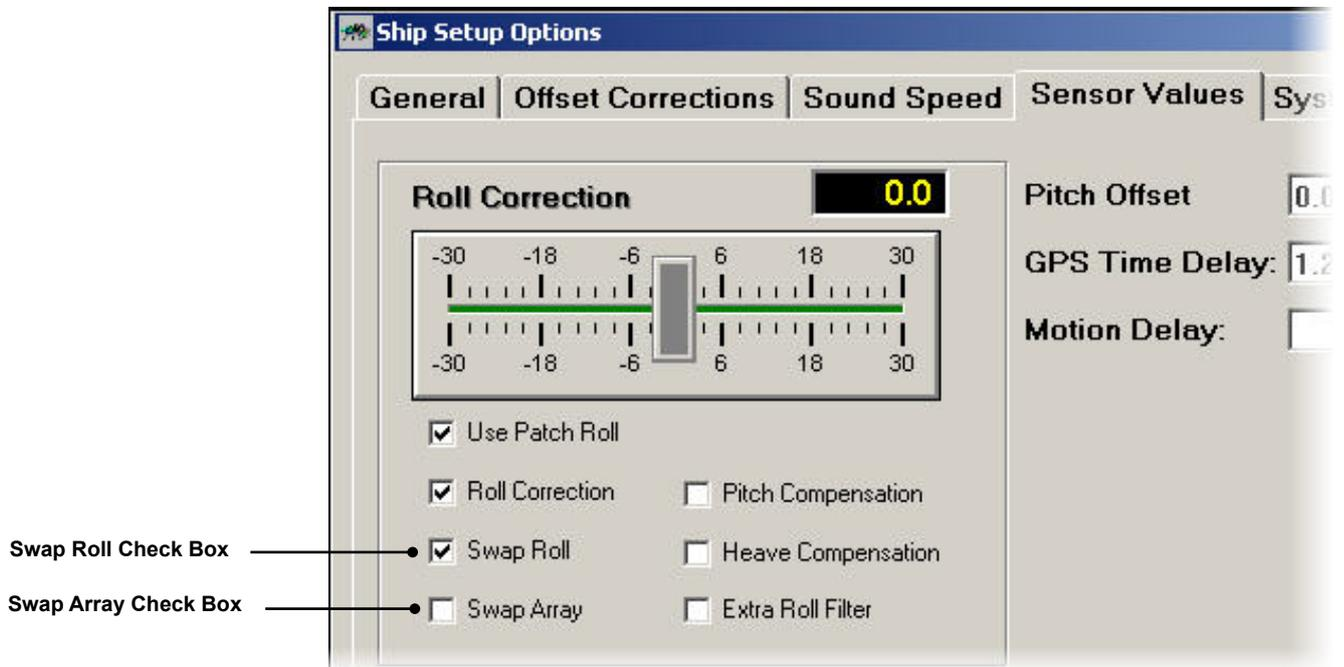

Figure 36 – Swap Array and Swap Roll Check Boxes
If possible use a known gyro compass or magnetic device along with known magnetic deviation to calculate the ships heading accurately (within 1°). Compare this value with the **Heading** value shown in the **Text Box** at the top left of the user interface. If these values are different apply a heading offset to compensate in the **Heading Offset** group box in the **General** tab. See Figure 36.
Carry out the following patch test. This test has been automated and the software will calculate the value of roll correction and store this value. Before proceeding, check and confirm that there is a tick in the "Use Patch Roll" box, Ship Setup Options -Sensor Values tab. See Figure 36.
- 7) Exit the Patch Test and check in the Ship Set-Up Options Screen under Sensor Values that a value for "Roll Correction" has been saved - See Figure 36.